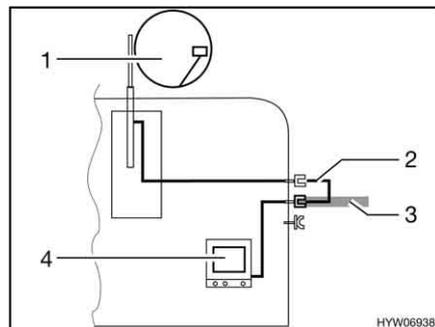

Fig. 156 TV inside the vehicle
- TV inside the vehicle (Fig. 156,4): Connection to roof antenna (Fig. 156,1) with connection cable (Fig. 156,2)
- TV inside the vehicle (Fig. 156,4): Connection to external antenna (Fig. 156,3)